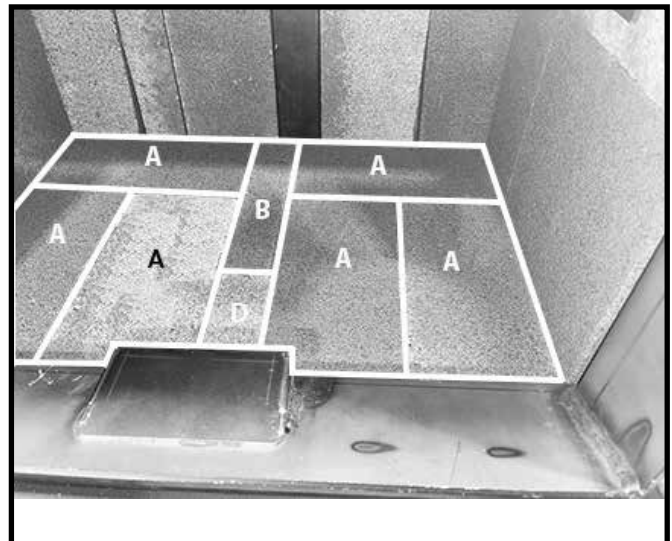

Figure 32: Final A and D bricks in place.
9. Finish by placing two "A" bricks on the right side of the firebox floor followed by the remaining "D" brick placed in the center of the firebox in front of the "B" brick. (Figure 32)